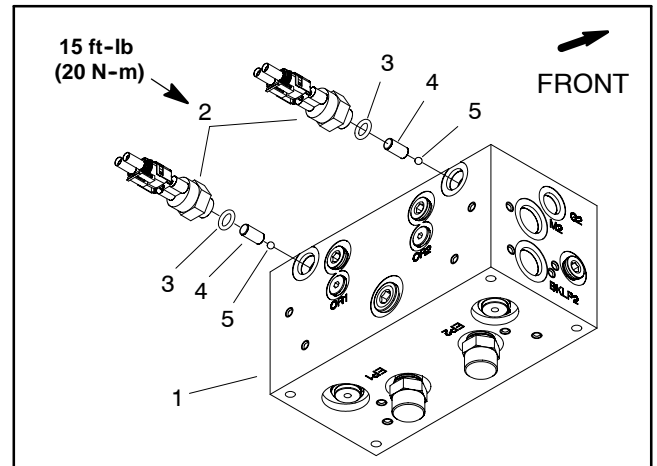

Figure 69
1. Make sure that dowel pin and ball are placed in manifold port as shown in Figure 69.